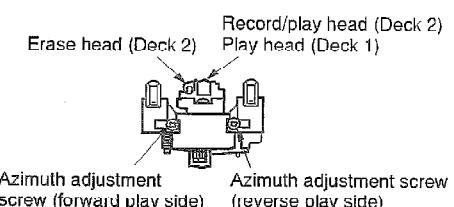

Fig. 6
3. Forward play the azimuth adjusting portion (8 kHz, -20 dB) of a test tape (QZZCFM) and adjust the azimuth adjustment screw so the output at the left and right channels is at the maximum. (See Fig. 6)